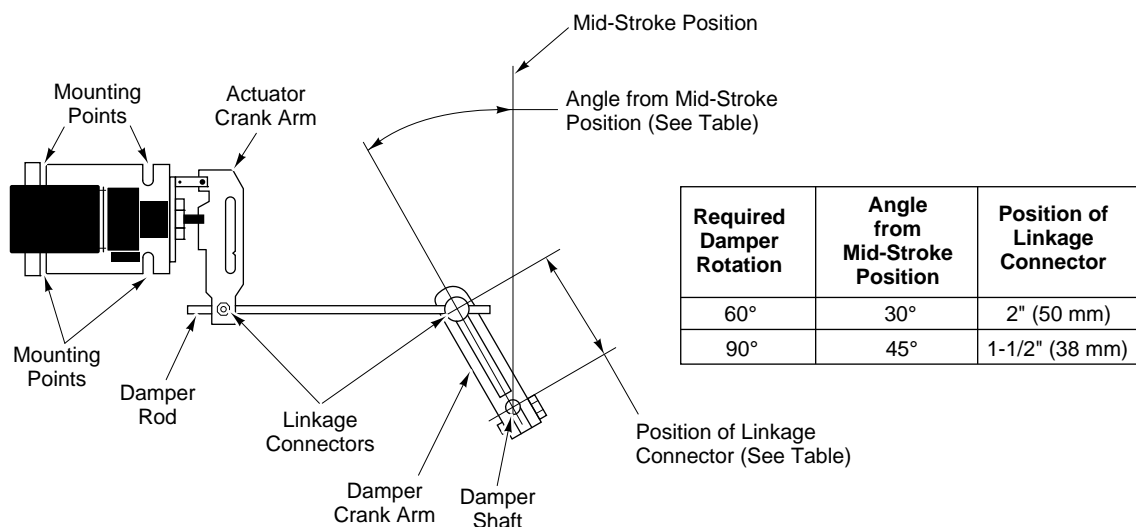

Figure-14 Recommended Actuator/Damper Mounting.
- c. If possible, select a mounting position such that, at mid-stroke, the actuator crank arm and the damper crank arm on the drive shaft are each at a 90° angle to the damper rod (Refer to Figure-14). This is the recommended mounting position. It may be necessary to swivel the actuator linkage to arrive at this mounting location.
4. Mount a ball joint connector in the slot on the damper crank arm. To achieve 90° of damper rotation, position the connector 1-1/2" (38 mm) from the centerline of the shaft hole on the crank arm. For 60° of damper rotation, position the connector 2" (50 mm) from the shaft hole centerline. Typically, 60° to 70° of rotation (maximum is 90°) is sufficient to permit almost maximum air flow through the dampers. (Refer to Figure-14).
5. Rotate the damper to its open position. Install and secure the damper crank arm (with ball joint connector) to the damper shaft, positioning the crank arm as follows (Refer to Figure-14):